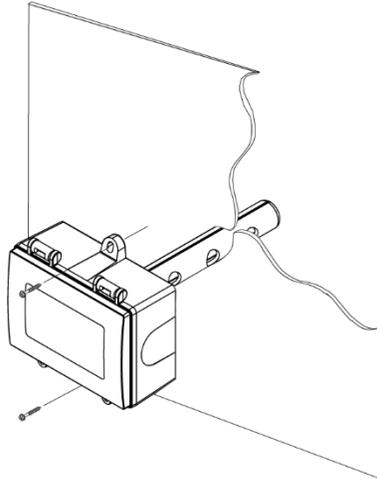

Figure 2: Mounting the sensor.
1. Drill or punch a 7/8" or 1" hole in the duct at the preferred location and insert the probe into the hole to mark the enclosure mounting holes. Remove the unit and drill the two mounting holes. Clean all drilled holes of debris before mounting the device. Mount the enclosure to the duct with two #10 sheet metal screws (not included) such that the duct air flow is parallel with the vent holes in the probe (i.e.: air flows directly into the probe holes). To prevent air leaks, ensure the gasket is compressed around the probe between the device enclosure and the air duct. As shown in Figure 2.